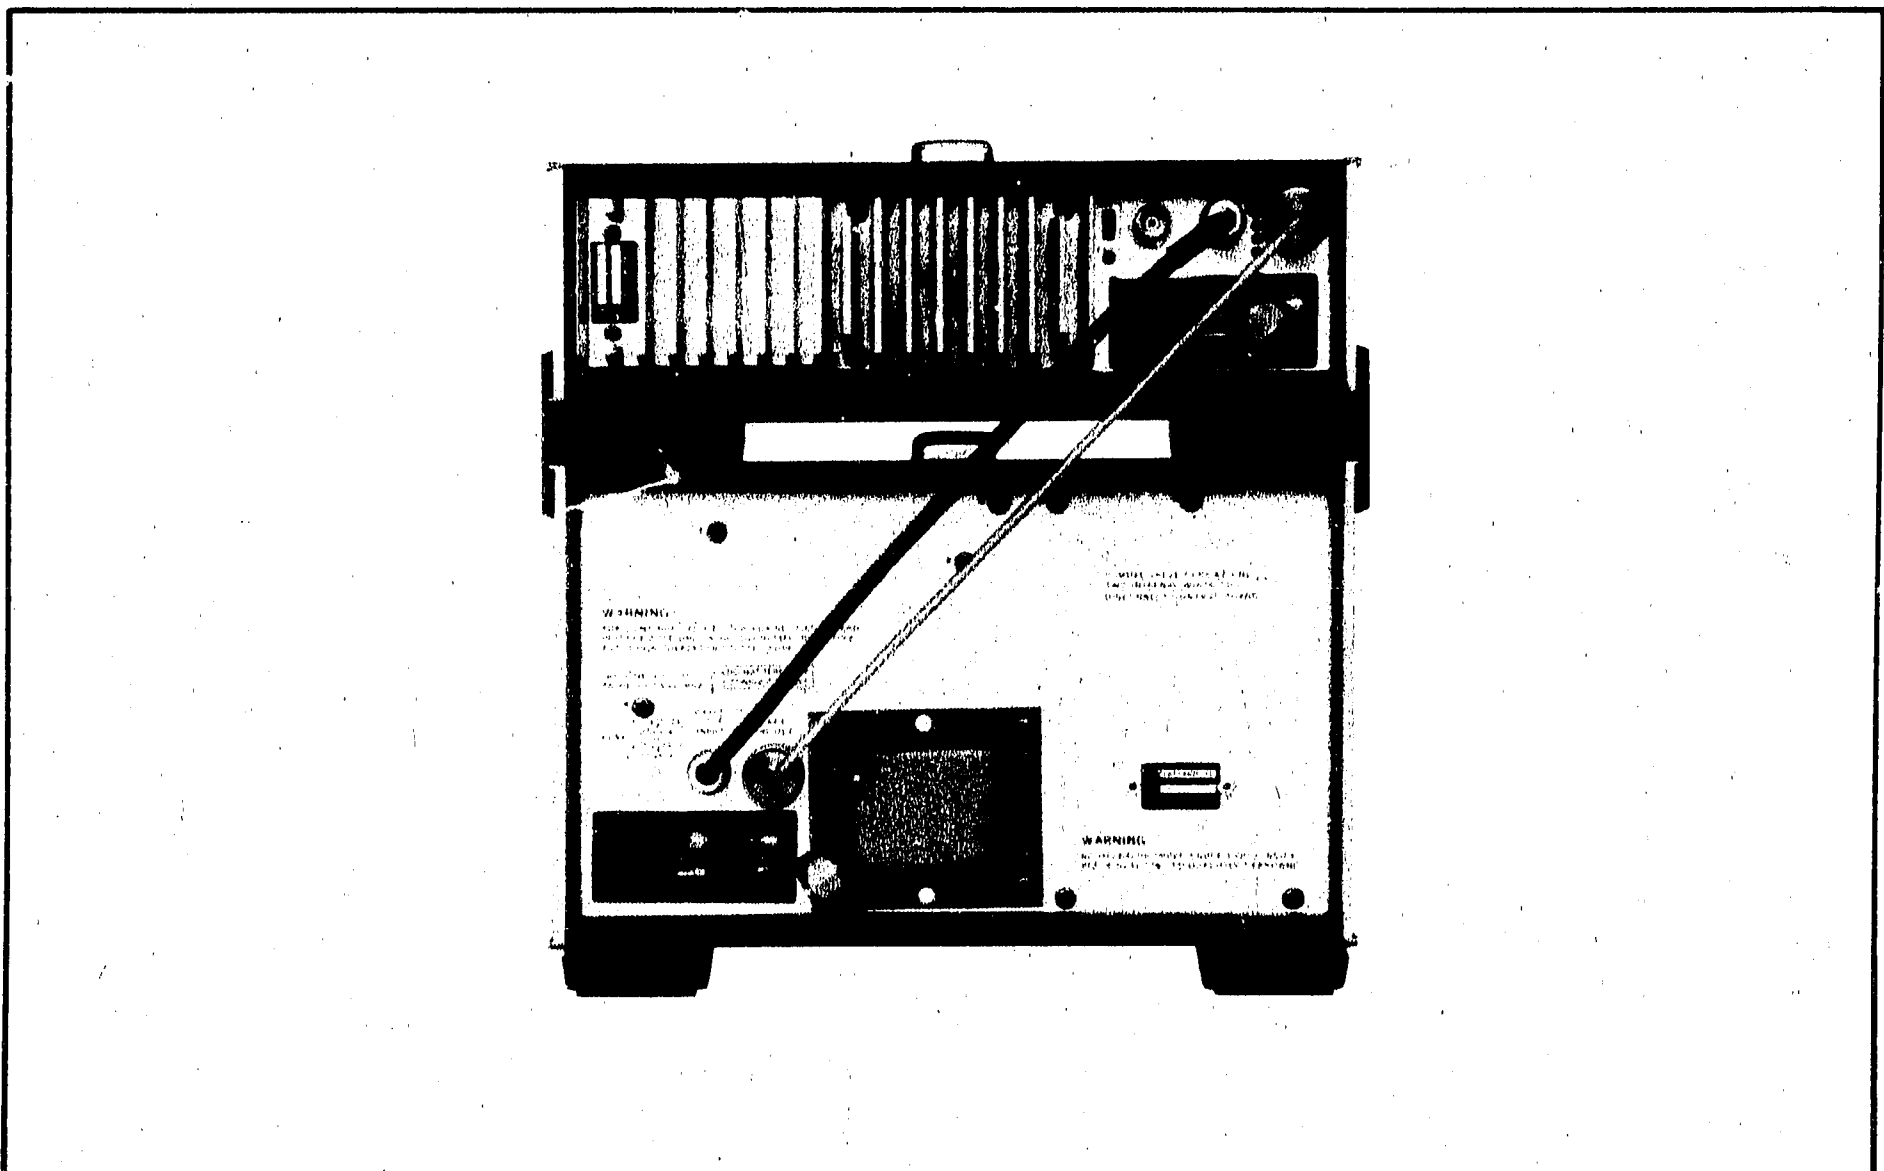

Figure 2-4. Model 8655A and Model 8654B Interconnections
c. For 8654B signal generators, make the cable interconnections shown in Figure 2-4. For 8654A generators, connect synchronizer's  $\phi$  LOCK output to generator's FM input with FM modulation switch set to EXT. For older 8654A signal generators it may be necessary to use flexible BNC-to-BNC coaxial cable and BNC-to-Type N adapter to make RF connections.